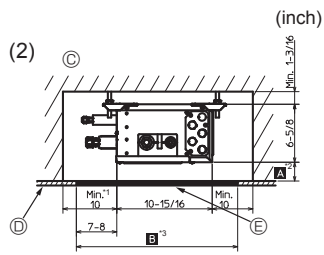
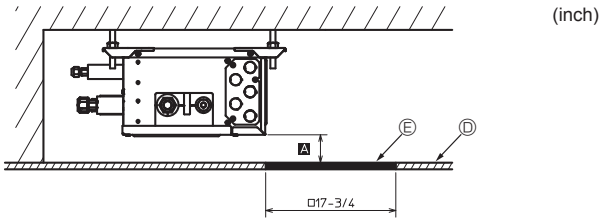

Fig. 4-7
Fig. 4-8
(2) Side View (Fig. 4-7, Fig. 4-8)
In the case of "□ 17-3/4 inch (450 mm)", prepare a maintenance hole at a PCB side (as it is shown in Fig. 4-8), and "Min. 11-13/16 inch (300 mm)" is needed as distance **A**.